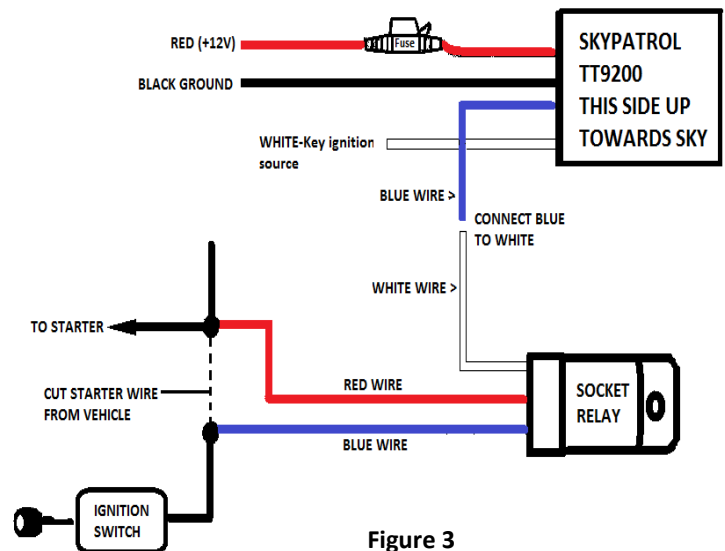

Figure 3
- For the starter interrupt installation, follow the steps shown in figure 3.